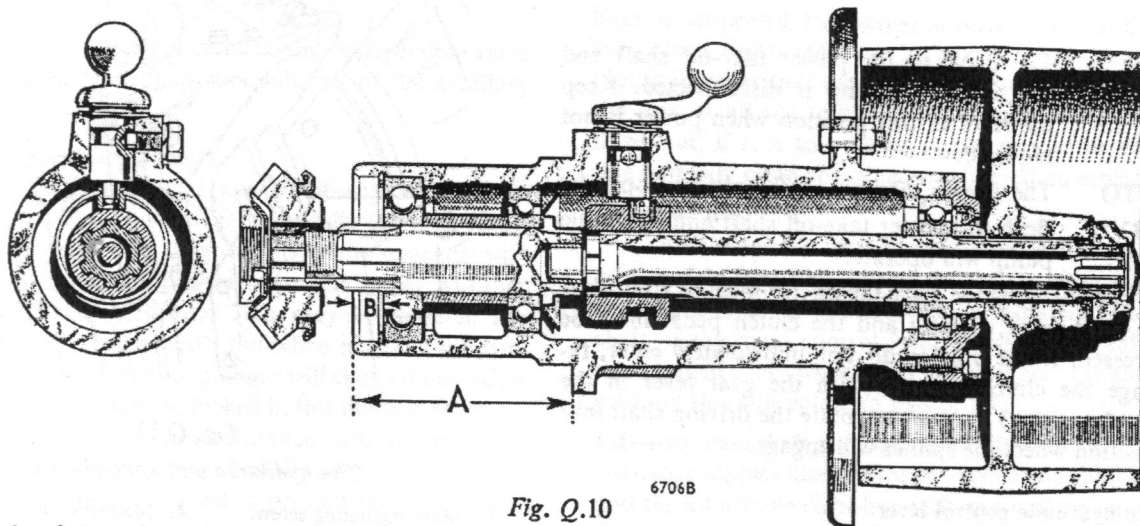

Fig. Q.10
tween the machined face of the securing flange of the housing and the outer face of the bearing nearest the bevel gear. The procedure for measuring this distance is illustrated in Fig. Q.10. Subtract dimension (B) from dimension (A). This distance should be 4.35 in. (11.04 cm.). The difference between the reading obtained and 4.35 in. gives the thickness of shims to be fitted.